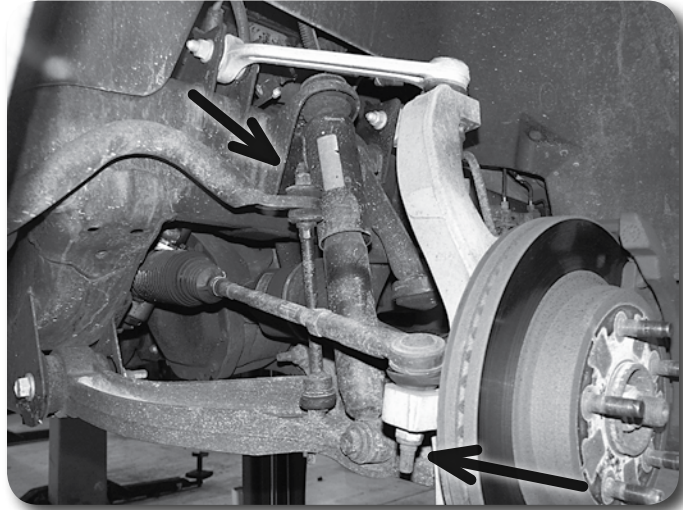

Figure 2
8. Remove the factory shocks. Save the lower mounting hardware. **Figure 2**
9. Disconnect the sway bar links from the sway bar. Save all bushings and cup washers. **Figure 2**
11. Disconnect the tie rod ends from the steering knuckles **Figure 2**. Remove and save the mounting nuts. Use the appropriate puller to separate the tie rod end from the steering knuckle. Take care not to damage the tie rod end.